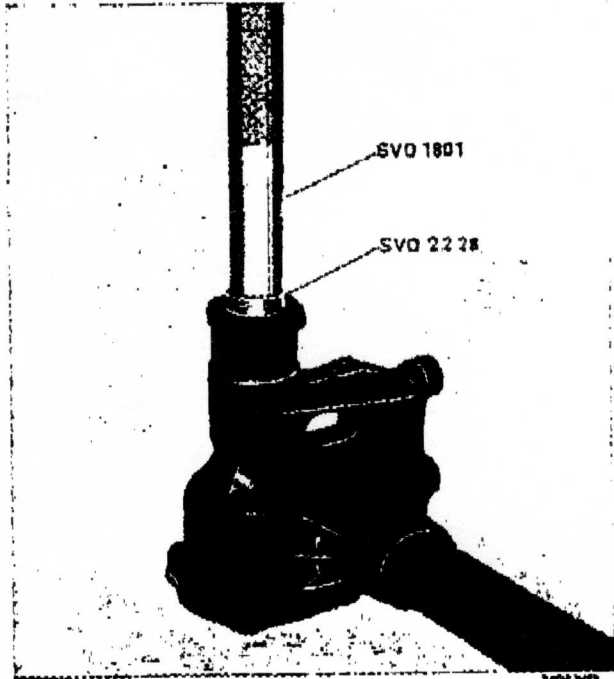

Fig. 33. Fitting bushing.
1. Press the pitman arm shaft bushings into the housing from each direction with tool SVO 2228 and SVO 1801, see Fig. 33. In steering box part number 250031, the longer bushing is placed below. In late production steering boxes the upper of the original bushings is provided with oil grooves. In this way the bushings receive slightly better lubrication when they are new. Such oil grooves are not, however, necessary and in order to avoid the risk of faulty fitting the bushings are alike and without oil grooves when they are sold separately. In the case of cast iron upper covers, the bushing is pressed in with drift SVO 2227.